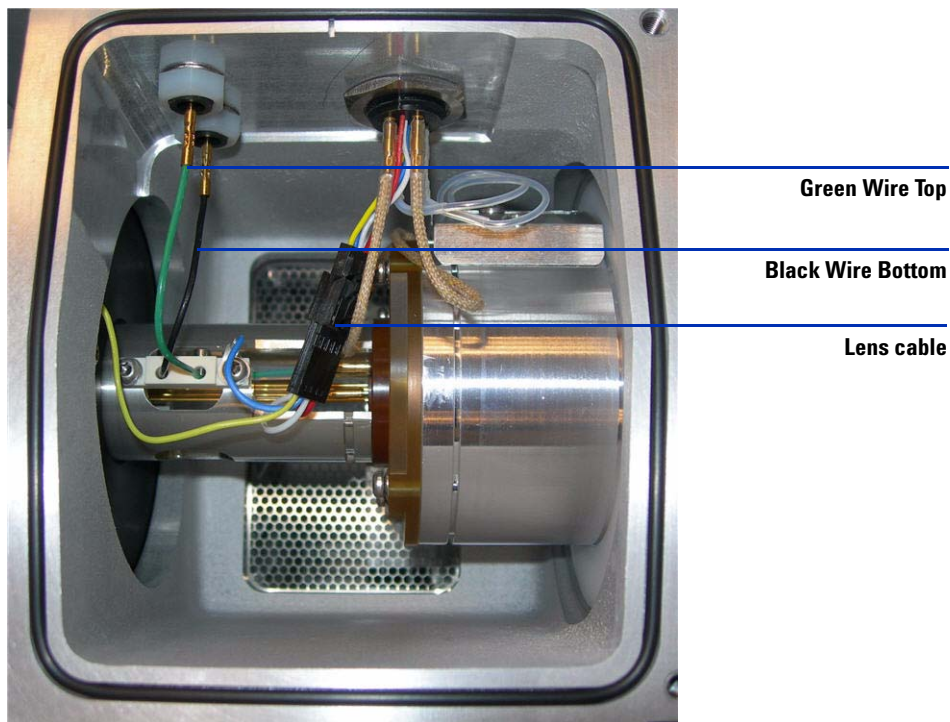

Figure 59 Optics assembly
- 6 Use your finger to push on the skimmer spacer to get the ion optics to pop out of the instrument. Be careful to catch it so it doesn't fall on the floor. See Figure 59.